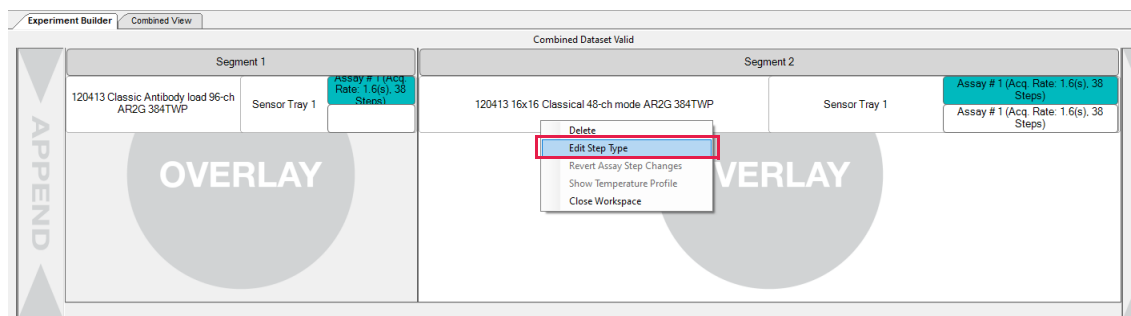

Figure 2-36: Editing Step Type.
- To edit the assay file step types, right click the **Experiment Name, Sensor Tray or Assay** box for the file you want to edit and select **Edit Step Type** (Figure 2-36).